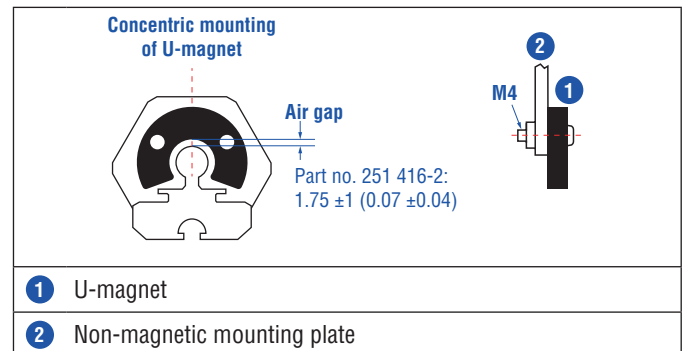
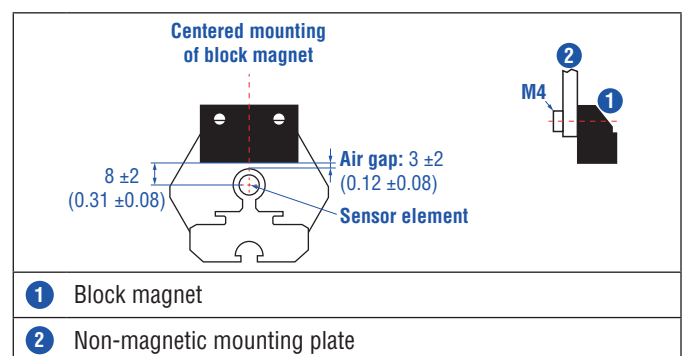

Fig. 37: Mounting of U-magnet (part no. 251 416-2)
Fig. 38: Mounting of block magnet (part no. 403 448)
- Mount block magnets centrally over the sensor rod or the sensor profile. The maximum permissible air gap must not be exceeded (Fig. 37/Fig. 38).